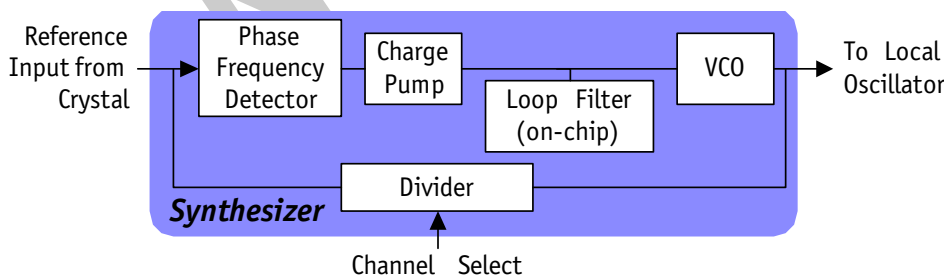

Figure 4-4. Radio Synthesizer Block Diagram
The radio supports two on-chip synthesizers to generate local oscillator (LO) frequencies for receiver and transmitter mixers. Both synthesizers share the topology shown in Figure 4-4.